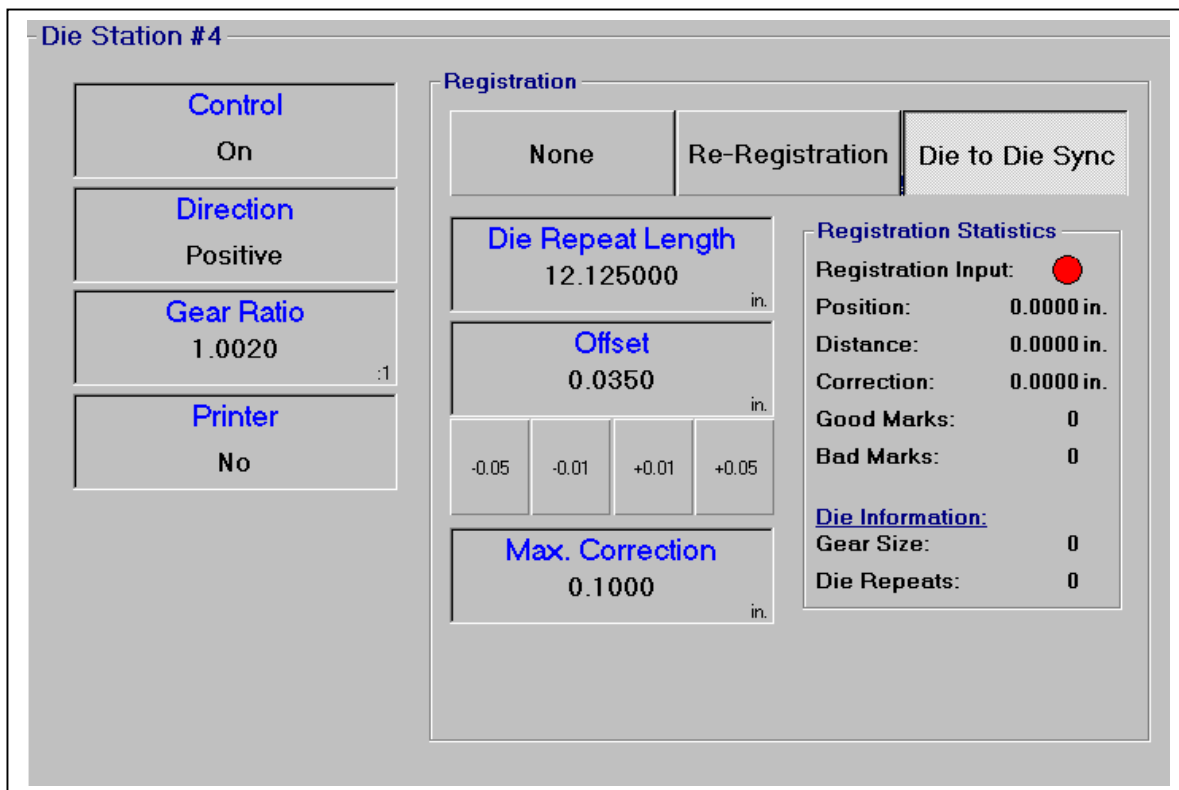

Figure 4 – Axis Setup Screen (Die to Die Sync)
5. Select the axis module button for the die that will be the Primary Axis, on the Main Screen. This will display the Axis Setup Screen Figure 4. Enable Die-to-Die Sync by pressing the Die-to-Die Sync button.